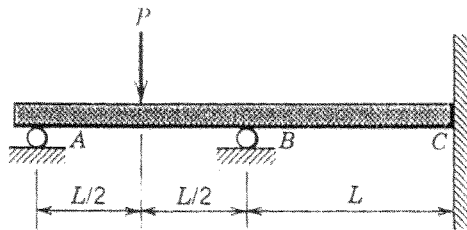

Fig. 5
5. A beam is loaded and supported as shown in Fig. 5. By using the area-moment method, determine